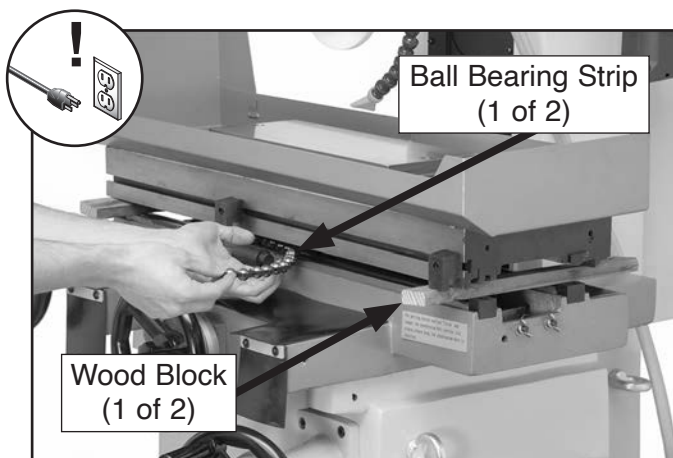

Figure 61. Table ball bearing strips being removed.
3. Carefully remove ball bearing strips from saddle ways (see **Figure 61**).